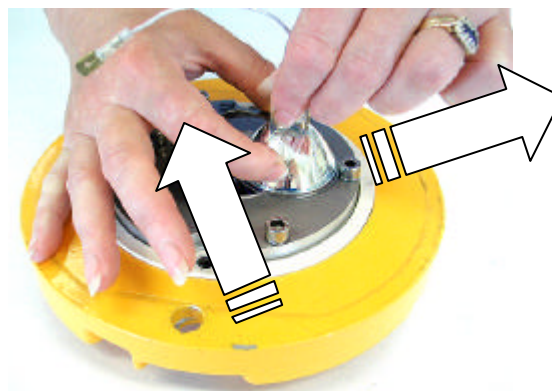

Fig. 12. Remove the lamp.
- Remove the bottom cover gasket (4) from its recess in the body casting (1).
- Pull the lamp retaining spring fingers (23) away from the lamp reflector using two fingers of one hand. With the other hand pull the lamp back until the reflector rim is clear of the prism clamp (6) enabling the lamp (20) to be lifted clear of the clamp. Care should be taken not to touch or otherwise contaminate the bulb of the lamp or reflector surface. See **Fig. 12**.